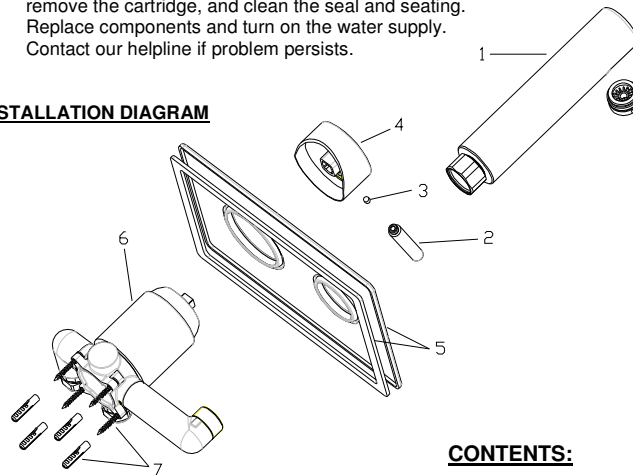

Fig.1
2. The application for this mixer should be measured carefully to ensure the product will fit within the wall cavity. The product has some depth adjustment, but thickness of plasterboard, tiles etc need to be considered to ensure the concealing plate (5) fits over the mixer and covers the cavity hole.
3. Place the mixer (6) into the wall cavity and screw to supporting member or wall using the fixing kit (7) provided. (See Fig.1)
5. Screw spout (1) onto body using supplied washer.
6. Before finishing wall, temporarily fit handle body (4) to the body (6) and fully open the mixer letting it run for a few minutes, check all joints and connections for leaks.
9. Fit handle body (4); tighten the grub screw (3) and fit the lever (2) to the mixer ensuring correct orientation.